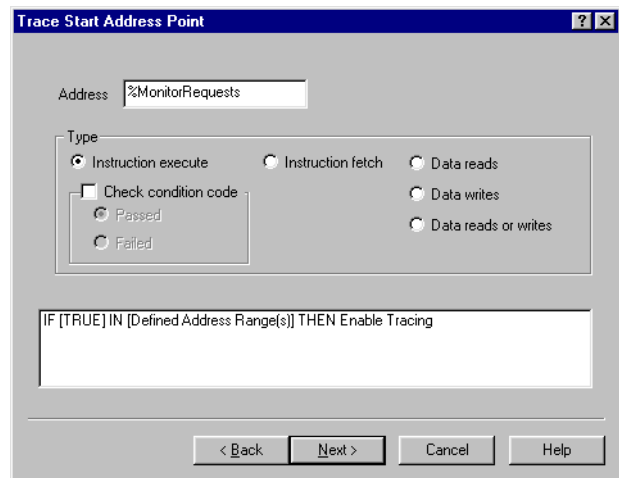

Figure 8-50 Trace Start Address Point dialog box
7. Click on **Next>**. The Trace Start Address Point dialog box shown in Figure 8-50 is displayed.